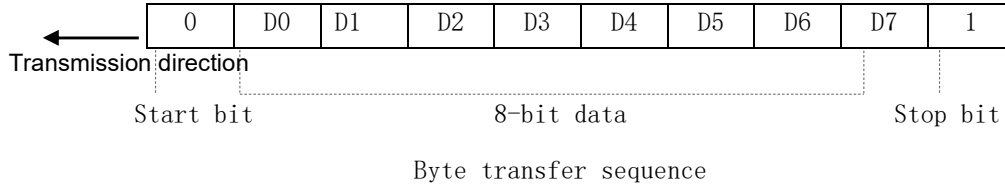

Figure 1
- B. The byte format is 8-bit binary code per byte, add a start bit(0) during transmission. One stop bit (1), 10 bits in total. The byte transmission sequence is shown in Figure 1. D0 is the lowest bit of a byte and D7 is the highest bit of a byte. Low bit is the first, then high bit.